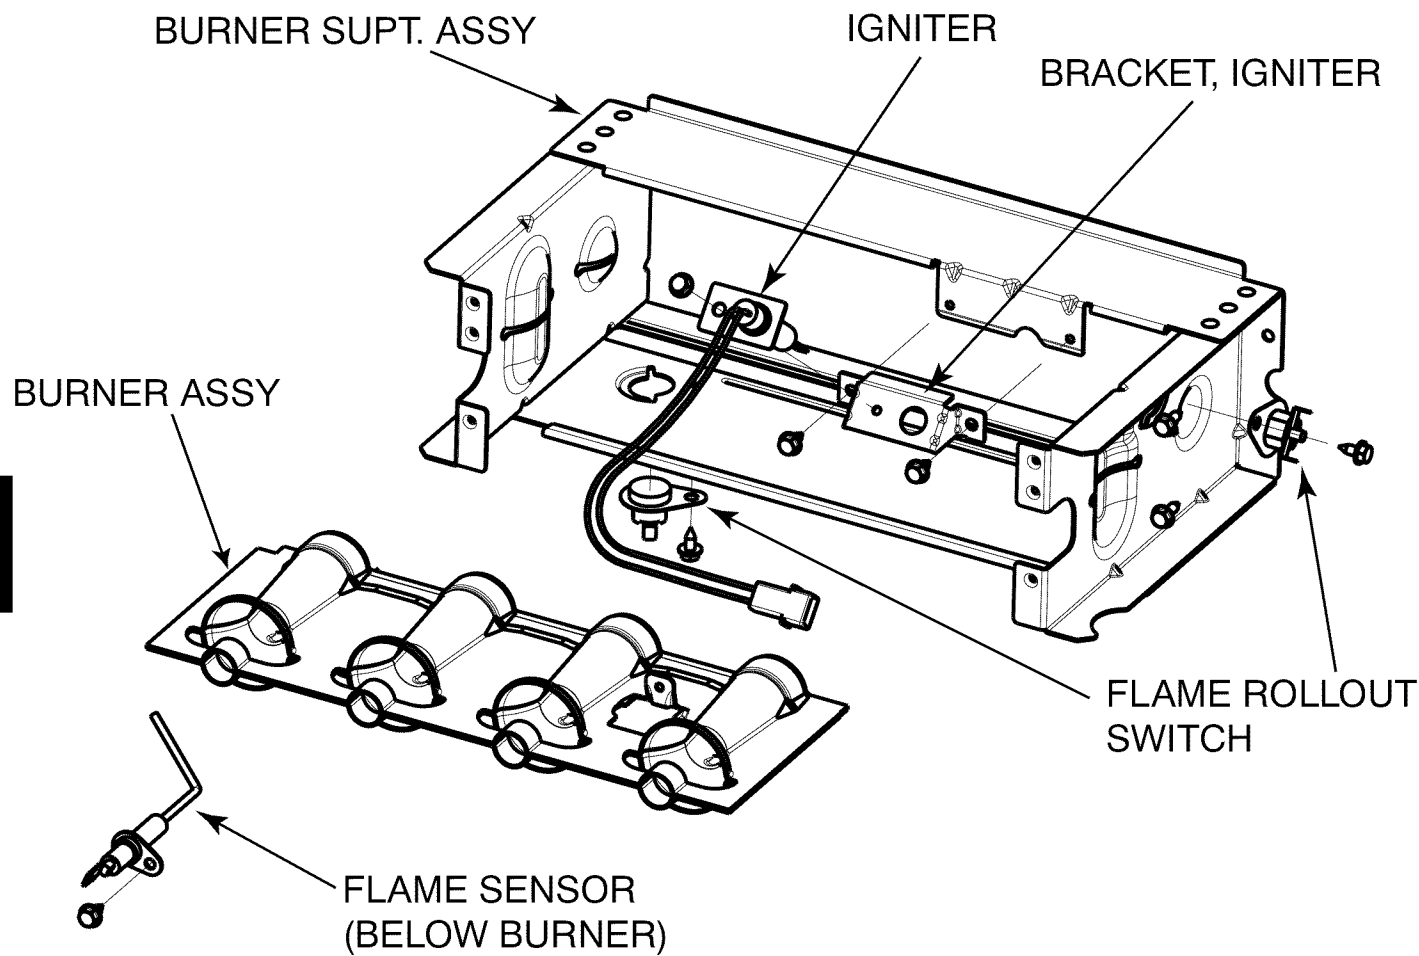

Fig. 62 - Burner Assembly
6. Remove screws attaching burner assembly to cell panel. (See Fig. 62.)